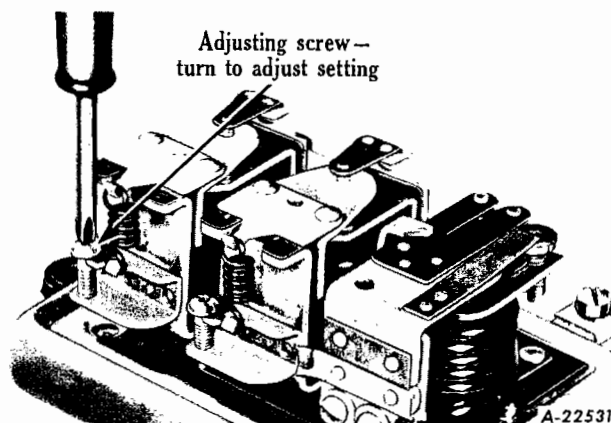
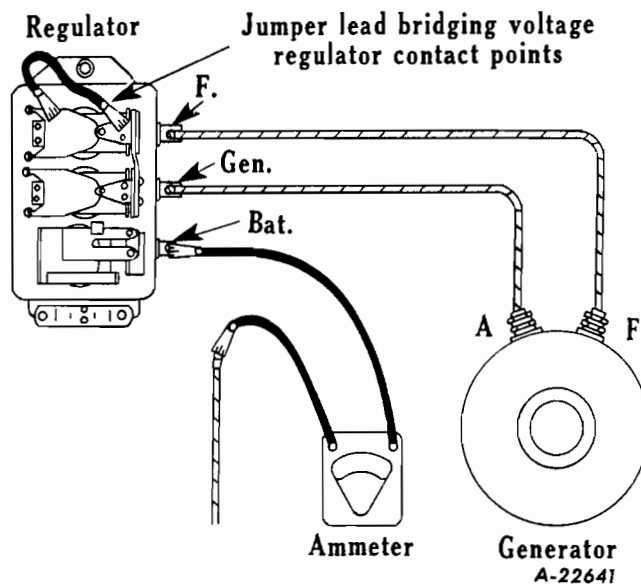

Fig. 11 - Adjusting voltage regulator setting.
Fig. 13 - Ammeter and jumper lead connections for checking current regulator setting by the jumper lead method.
AIR GAP--To check air gap, push armature down until the contact points are just touching and then measure air gap (Fig. 13). Adjust by loosening the contact mounting screws and raising or lowering the contact bracket as required. Be sure the points are lined up, and tighten screws after adjustment.
To adjust voltage setting, turn adjusting screw (Fig. 11). Turn screw clockwise to increase voltage setting and counterclockwise to decrease voltage setting.
With ammeter connected as in Fig. 13 and regulator at operating temperature, operate generator at 50 per cent above rated output speed, and note current setting. If necessary to adjust, remove cover and adjust in same manner as voltage regulator unit (Fig. 11) by turning adjusting screw clockwise to increase current setting or counterclockwise to decrease setting. See CAUTION note under Voltage Setting of Voltage Regulator. If unit is badly out of adjustment readjust as explained under REGULATOR SPRING REPLACEMENT.
2. JUMPER LEAD METHOD--Remove the regulator cover and connect a jumper lead across the voltage regulator contact points (Fig. 13). Turn on lights and accessories to prevent high voltage during the test. With generator operating 50 per cent above rated output speed and with regulator at operating temperature, note the current setting.